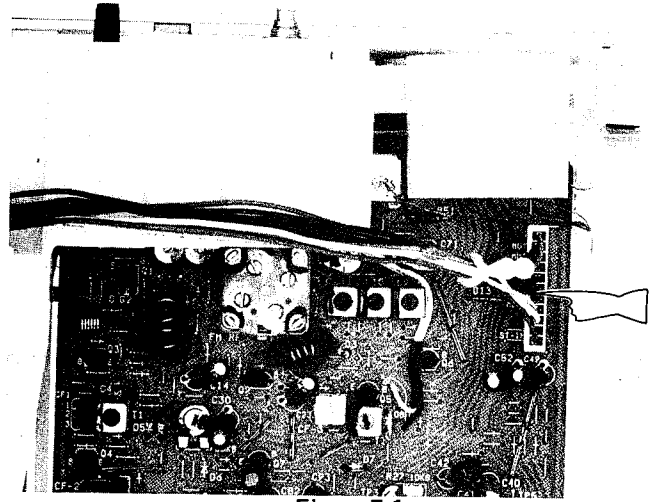

Figure 7-1
1. Remove one socket at the tuner P.W.B. See Fig. 7-1.